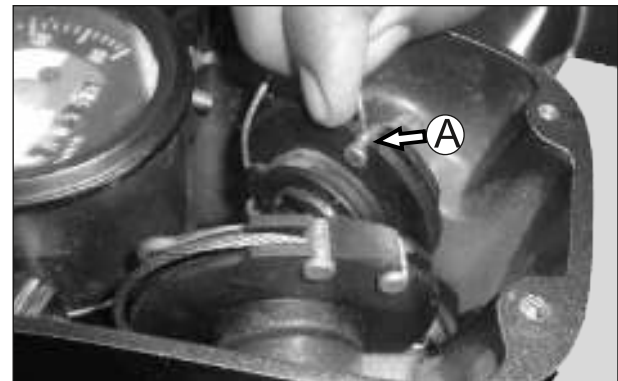

Fig. 5.22
- Disconnect cable from pulley throttle (A), at handle bar end. (Fig. 5.22)